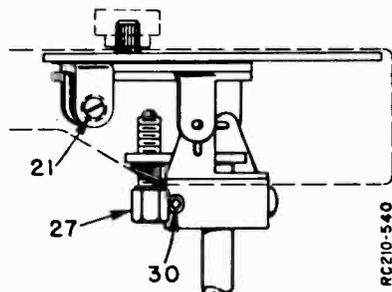

Figure 6. Arm Detail Showing Adjustments.
As the control cam continues its rotation, the pivot link (84) moves back following the cam, since the roller (85) is kept in contact with the cam by the control plate spring (87). This moves the control plate (83) back, the arm control lever (103) moves the pickup arm to the set-down point for the record to be played. The pickup arm is held above the record because the lift rod (28) is still resting at the top of the inclined tab (83A) on the control plate (83). The set-down point is governed by the set-down adjusting screw (21). (See figure 6.) The shoulder on the set-down arm (104A) holds the pickup arm at the set-down point until it is pushed back by the edge of the control plate engaging the set-down arm stud (104B). The pickup arm is then free and moves down toward the record starting groove.
Adjustment of the set-down point, for either 7-inch, 10-inch, or 12-inch records, is made by adjustment of the set-down adjusting screw (21), see Figure 6. Screw (21) is accessible through hole in right side of pickup arm. This adjustment must be made with the record size selector knob (17) in the "10.12" position. When turning this knob be sure to turn it all the way (the dot between "10.12" should line up with the indicating dot on the pickup arm) to avoid making the set-down adjustment at the wrong point, resulting in improper set-down on 7-inch records. Turning the set-down adjusting screw (21) in, moves the set-down point of the pickup arm closer to the centerpost and turning the screw out moves it away from the centerpost.
### ADJUSTING THE PICKUP ARM HEIGHT (See Figure 6)